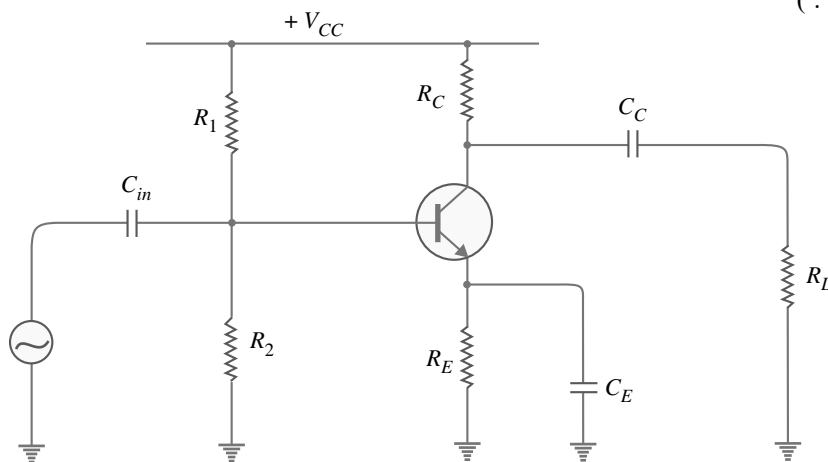
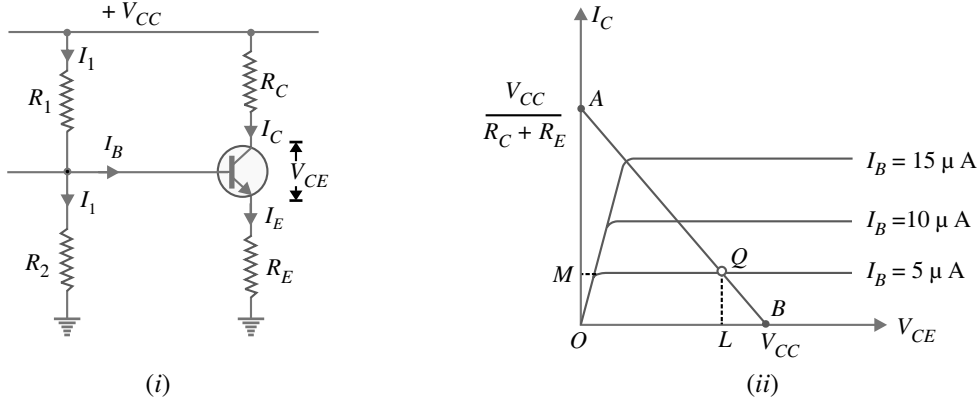

Fig. 8.16
Fig. 8.17
Consider the transistor amplifier shown in Fig. 8.16. In the absence of signal, d.c. conditions prevail in the circuit as shown in Fig. 8.17 (i). Referring to this circuit and applying Kirchhoff's voltage law,
This locates the second point  $A$  ( $OA = V_{CC}/R_C + R_E$ ) of the d.c. load line. By joining points  $A$  and  $B$ , d.c. load line  $AB$  is constructed [See Fig. 8.17 (ii)].
Therefore, actual operating conditions in the circuit will be represented by the point where d.c. load line intersects the base current curve under study. Thus, referring to Fig. 8.17 (ii), if  $I_B = 5 \mu\text{A}$  is set by the biasing circuit, then  $Q$  (i.e. intersection of  $5 \mu\text{A}$  curve and load line) is the operating point.
Recall that d.c. load of the  $CE$  amplifier in Fig. 8.15 is  $(R_C + R_E)$ . With signal applied to the amplifier, the a.c. load on the amplifier is  $R_{AC} = R_C \parallel R_L$ . Since the two loads are different, the a.c. load line of the amplifier is \*different from its d.c. load line. Referring back to the transistor amplifier shown in Fig. 8.16, its a.c. equivalent circuit as far as output circuit is concerned is as shown in Fig. 8.18 (i). To add a.c. load line to the output characteristics, we again require two end points—one maximum collector-emitter voltage point and the other maximum collector current point. Under the application of a.c. signal, these values are (Refer to example 8.7) :
**Slope of a.c. load line.** The amplifier shown in Fig. 8.16 “sees” an a.c. load  $R_{AC} = R_C \parallel R_L$ .